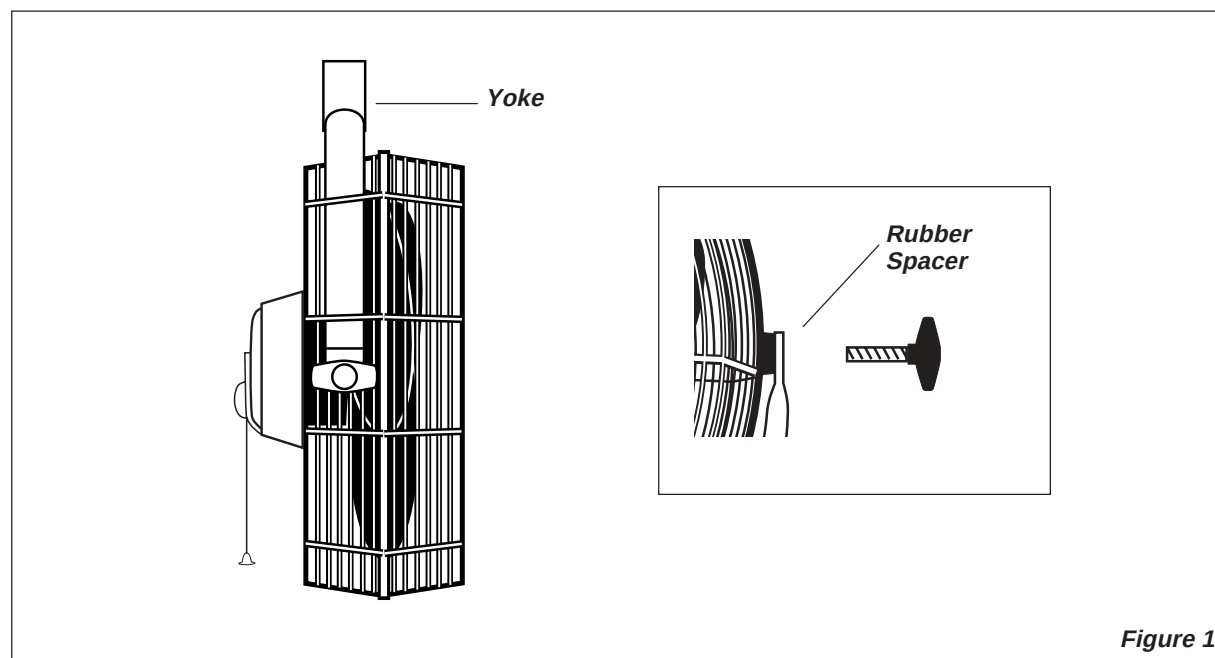

Figure 1
6. Align Yoke with grill mounting threads. Loosely attach one Grill Knob and one Rubber Spacer to the Head Assembly. Attach the other Grill Knob and Rubber Spacer to the Head Assembly and FIRMLY tighten. Return to the first Grill Knob and FIRMLY tighten. **(Figure 1)**